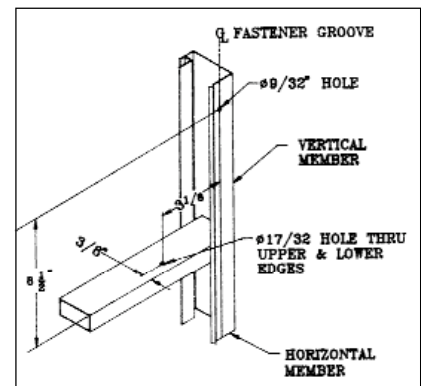

FIGURE 14
Select a horizontal door member that is at a convenient height and drill (1) 17/32" diameter hole as shown. Next, drill (1) 9/32" diameter hole in the vertical door member. Refer to **figure 14** for hole location.